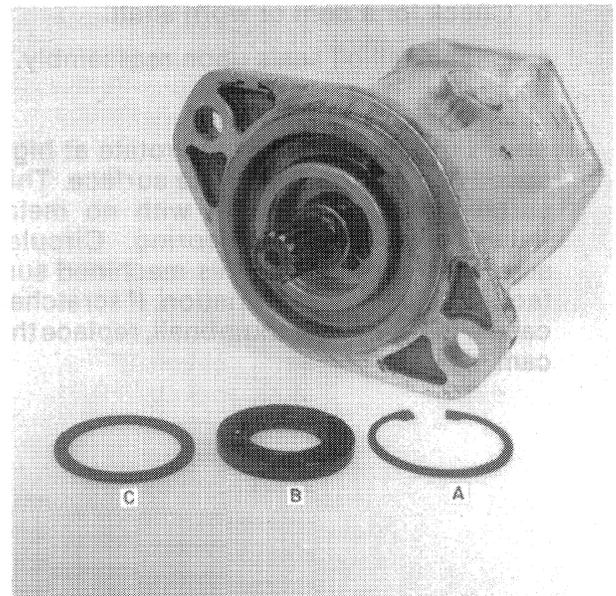

FIGURE 5-9
- a. Remove snap ring, A, seal, B, and spacer washer, C, Figure 5-9.